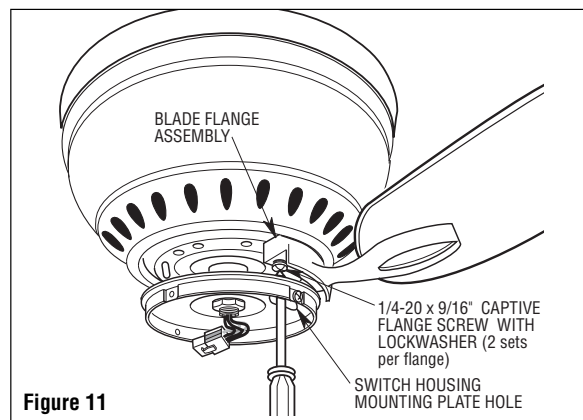

Figure 11
11. Attach one blade assembly to the motor using the two 1/4-20 x 9/16" captive flange screws with lockwashers provided for each flange (Figure 11). Make sure the screws are tightened securely. Repeat this procedure for the other four blade assemblies.